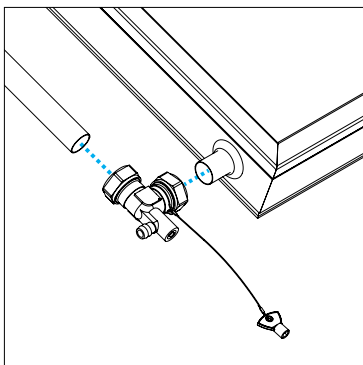

Figure 14. Cold pipe (closed circuit)
- **Closed Circuit System** – see *Figure 14*